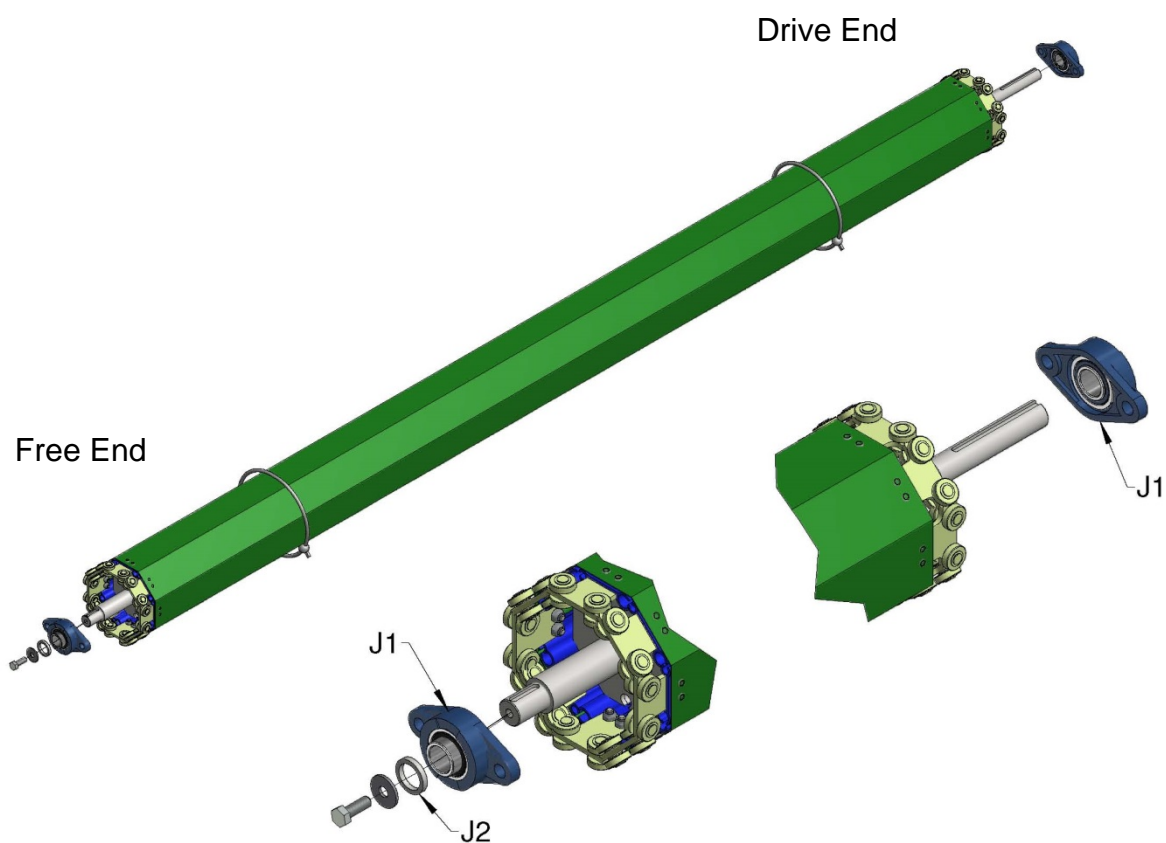

Figure 11a, Direct Drive Barrel Assembly
3b. If the door has been supplied with a pre-assembled barrel then fit the bearings to the shafts as shown in Figure 11a or 11b and install the top brackets as shown in Figure 5b (Dimensions are to the inside of the top brackets, make sure the shaft is fully engaged in the top tube). Continue from Section 12.
**Direct drive** - Fit the Bearings (J1) to each shaft as shown in Figure 11a with the 40mm x 6mm spacer (J2), M12x40mm washer and M12x35mm bolt (**this bolt must be fastened with threadlock**). Lock the bearing to the shaft with a 3mm Allen Key.